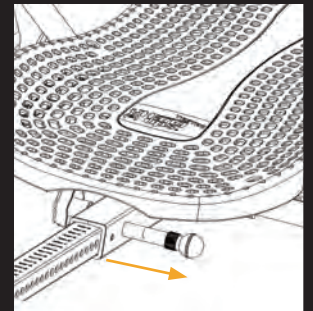

Fig. 2
- Release the height selector locking pin so that it fully engages in a hole. If you choose, re-tighten the De-rattler knob (See Figure 2).